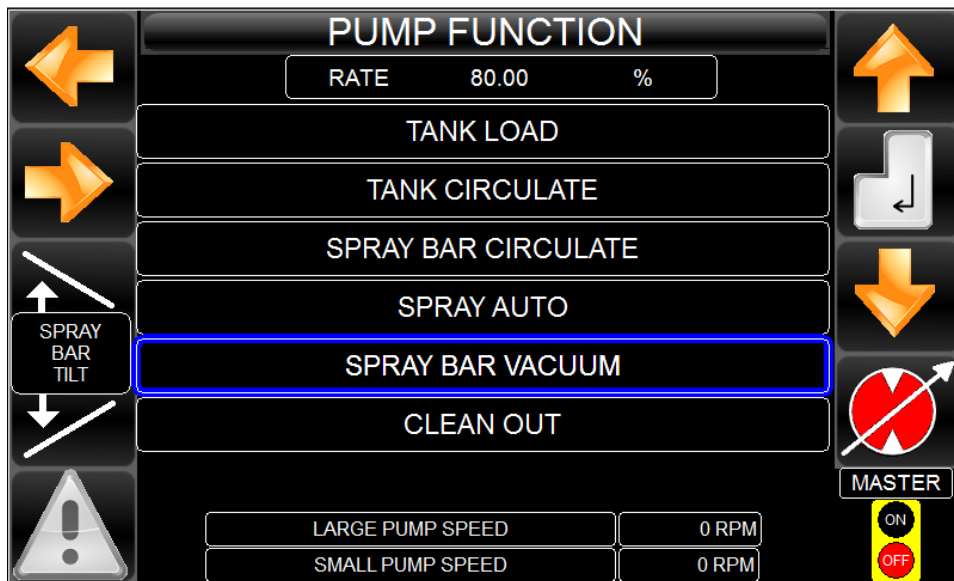

Figure 49: Spray bar vacuum
6. If both emulsion pump shafts can be turned, run **Spray Bar Vacuum** (Figure 49) at maximum pump speed. This pump function will suck the solvent from the strainer housing into the emulsion tank.